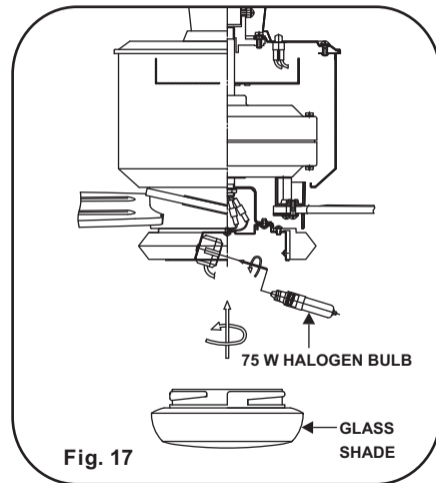

Fig. 17
Step 2. Raise glass shade up against bottom of fan housing and secure it to the fan by turning the glass shade clockwise until snug. **DO NOT OVERTIGHTEN.** (Fig. 17)